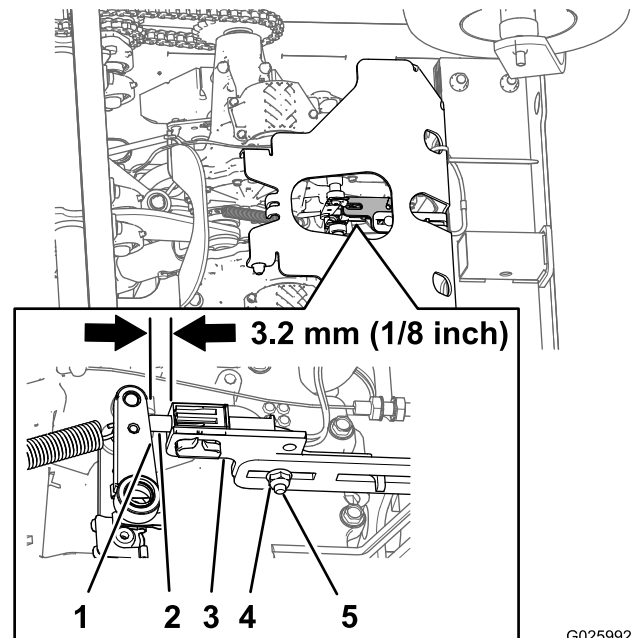

Figure 55
5. Check the distance between the parking brake-switch bracket to the brake arm of the transmission (Figure 55).
- A. Loosen the locknut and carriage bolt securing the parking brake switch bracket (Figure 55).
- B. Adjust the position of the brake-switch bracket until the gap (Figure 55) between the switch bracket and the brake arm is 3.2 mm (1/8 inch)
- C. Tighten the locknut and carriage bolt (Figure 55) securing the brake-switch bracket to 1017 to 1243 N·cm (90 to 110 in-lb).